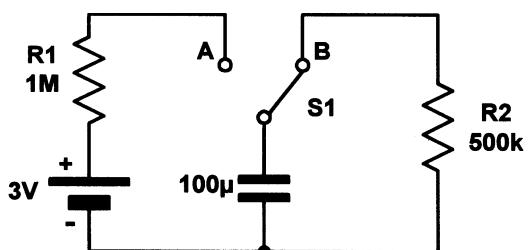

Figure A2.10
21. Assuming that the capacitor shown in Fig. A2.10 is initially fully discharged (by switching to position B), determine the current in  $R_1$  at the instant that  $S_1$  is switched to position A.